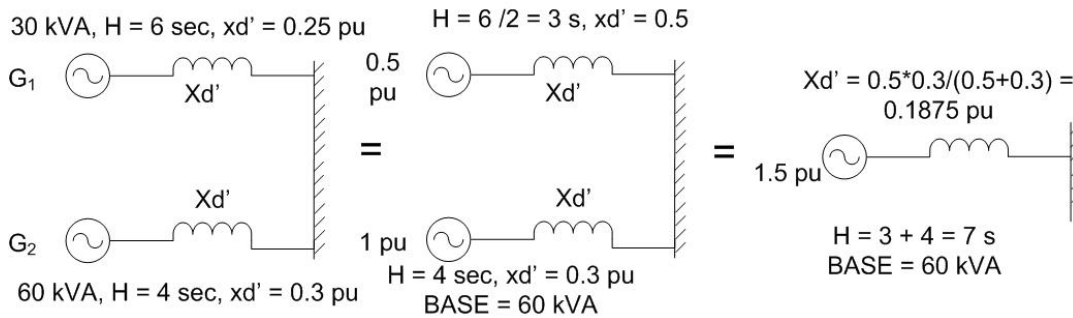

Figure 4: 2 M/C system
2.  $G_1 = 30$  kVA,  $H_1 = 6$  s,  $x_{d1}' = 0.25$  pu and  $G_2 = 60$  kVA,  $H_2 = 4$  s,  $x_{d2}' = 0.3$  pu (Refer Figure 4).